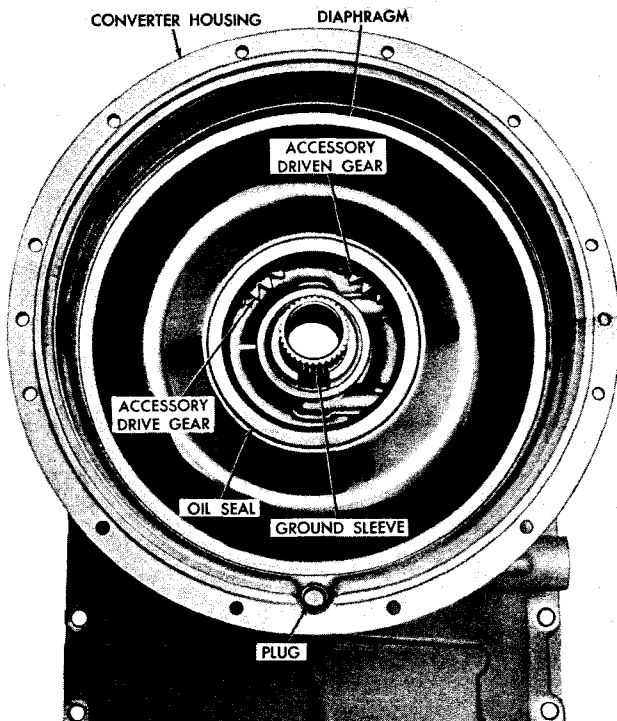

Fig. VI-1. Torque converter housing—front view
a. Disassembly (fig. VI-1 and -2)
c. Assembly (fig. VI-1 and VI-2)
(1) If two plugs 41 (B, foldout 3) were removed, install in housing by pressing in 0.030 min. below surface until plug is tight (20 lb force approx). If two dowel pins 36 were removed, install in dowel holes by pressing in until the end projects 0.440 inches from split line face. If the two pipe plugs 37 and 38 were removed, install by screwing in until tight.
(2) If converter housing sleeve 39 was removed, install by driving the sleeve evenly around the circumference until firmly seated on the shoulder. Heat the ring if necessary for easier installation. Install seal ring 42 on the sleeve.
(3) Install ball bearing 14 on accessory driven gear 43. Install snap ring 15. Install ball bearing 16.
(4) Install accessory driven gear 43, ball bearing 14, snap ring 15 and ball bearing 16 into the housing bore as an assembly. Install the snap ring on the outer race of ball bearing 14.
(5) Install ball bearing 8 and snap ring 9 on accessory drive gear 1.
(6) Install accessory drive gear 1, ball bearing 8 and snap ring 9 into the housing bore as an assembly. Install the snap ring on the outer race of ball bearing 8.
(7) Install ground sleeve 17 into housing bore, making certain that all four bolt holes are properly aligned. The holes are unevenly spaced to prevent improper installation. Install four 5/16-18 x 3/4 bolts 18, and torque to 17 to 20 pound feet.
(8) If the converter regulator valve assembly was removed, install valve 23, spring 24 and pin 25. Drive the pin into the housing until it projects 1.19 inches above the surface of housing.
(9) If the lube regulator valve assembly was removed, install valve 26, spring 27 and pin 28. Drive the pin into the housing until it is flush to 0.010 inch below the surface of the housing.
(10) If diaphragm 11 (B, foldout 2) and oil seal 10 were removed, install the oil seal in the diaphragm and install the diaphragm assembly into the housing. Make certain it is seated against the housing shoulder. If the plug 12 was removed, install the plug in the housing bore.